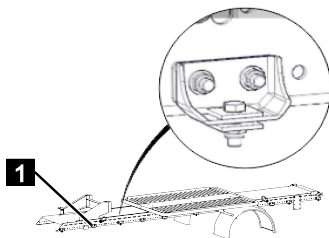

Fig. 264
1. Tighten all frame attachments (Fig.264/1) with the correct torque (↪Chapter 8.4.3 „Tightening torques”, on page 203).